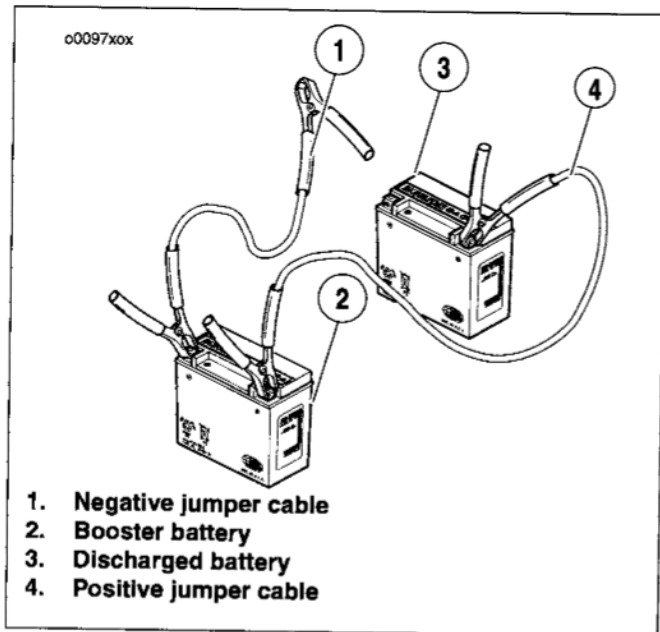

Figure 37. Jump Start Cable Connections
2. See Figure 37. Connect one end of a jumper cable to the DISCHARGED battery positive (+) terminal.